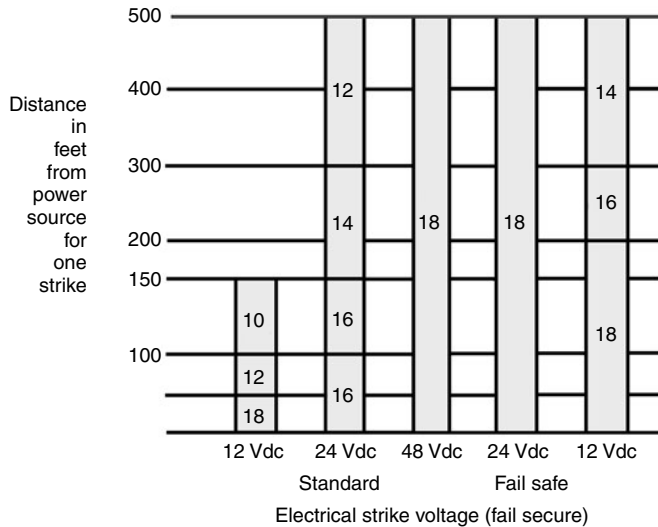

Figure 19.29 Electrical strike voltage (fail-secure mode of operation). (Trine Consumer Products Division, Square “D” Company)
Due to the remote control applications for electrical strike units, there can be a considerable distance between the strike location and the actual control for that particular strike. Figure 19.29 shows the *minimum* wire sizes required for standard and fail-safe electrical strike unit voltage at various distances.
Corrections: (2) Provide sufficient sized service wire (Fig. 19.29).